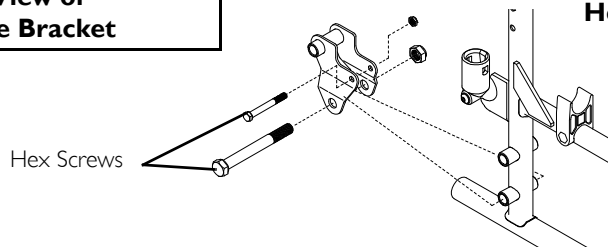

FIGURE 6 Installing Amputee Bracket - Non-Recliner Wheelchairs - 9000SL/XT
1. Refer to the following chart or FIGURE 6 to determine the mounting position of the amputee bracket: